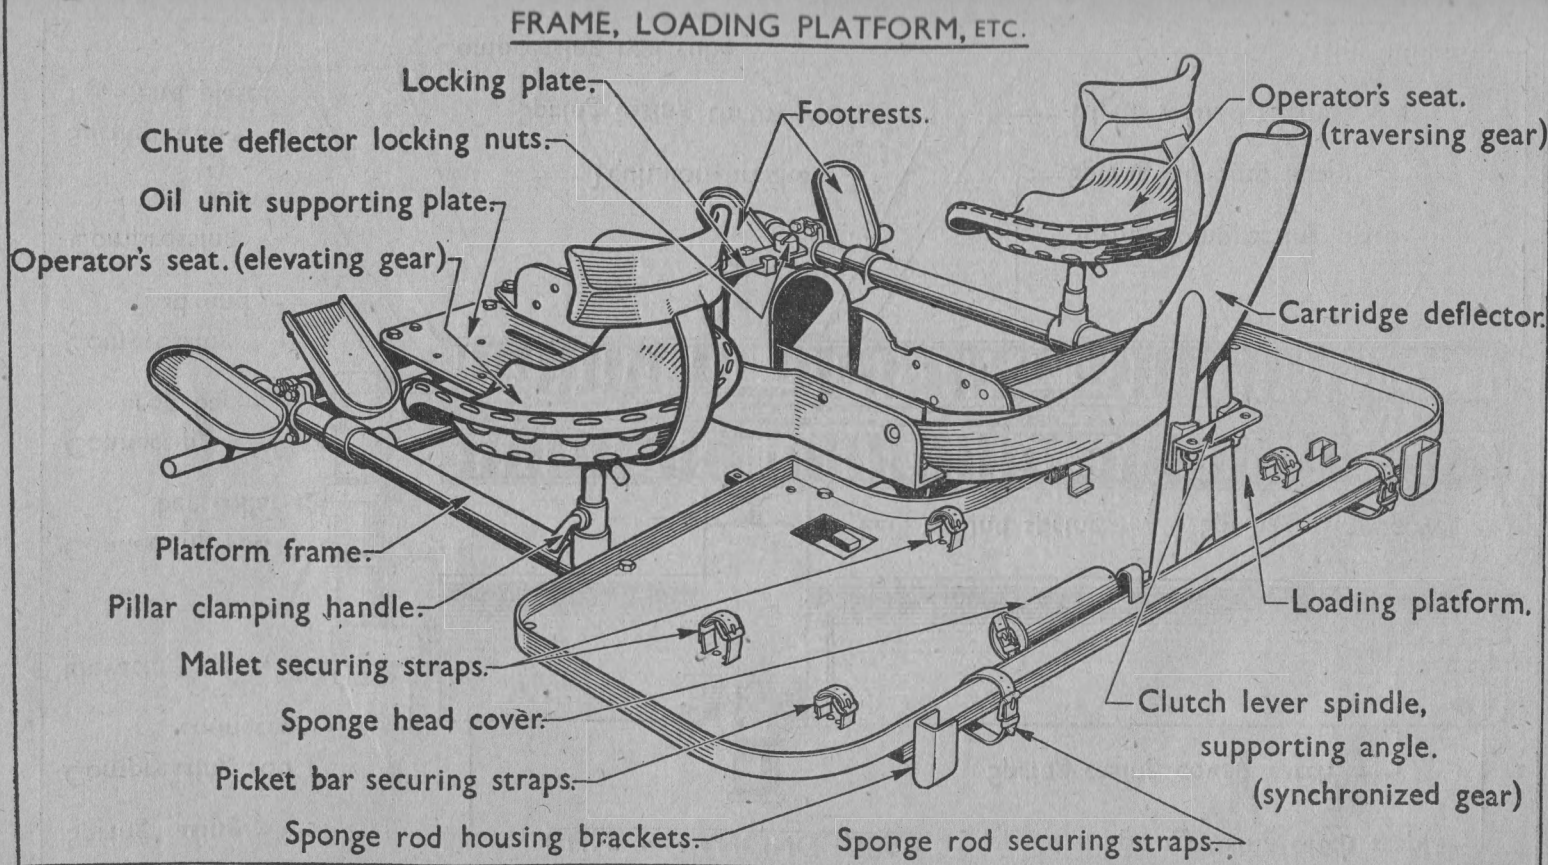

FIG. 20.
**38. The loading platform** (Fig. 20) is of steel plate stiffened by angles. Various holes are cut for the fitment of attached parts, including a rectangular one in the left centre for the rear firing pedal of the firing gear to operate.
**39. The layers' seats** (Fig. 20) are left and right and clamped in sockets welded to the side bars of the supporting frame.
**40. The foot rests** (Fig. 20) are left and right. They differ principally in the length of a supporting bar, that on the left side being longer, and in the shape of the right foot rest plate on the left side which is shaped to permit the layer's right foot to operate the pedal of the firing gear. A front firing pedal stop is also fitted.
**42. The cartridge deflector and chute** (Fig. 20) are provided to deflect the cartridge cases from the breech casing through the body of the mounting and to the front of the mounting.